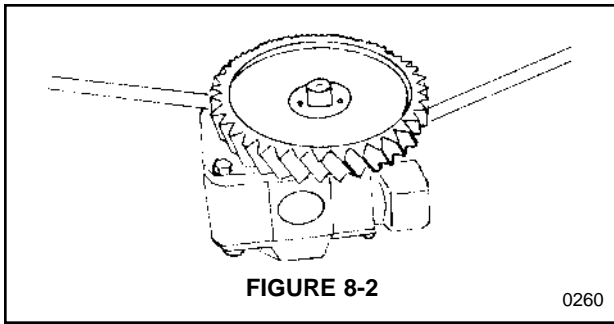

FIGURE 8-2
- A. Undo the front lock ring and attaching nut on the pump drive gear and use a gear puller or two screwdrivers to remove the pump drive gear, which is held with a woodruff key. See Figure 8-2.